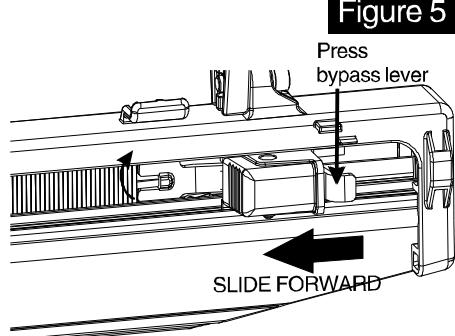

Figure 5
2. Pull back the pusher, pressing bypass lever of the pusher to allow pusher to bypass nails and slowly allow pusher to return to nose of the tool. (see figure 5)